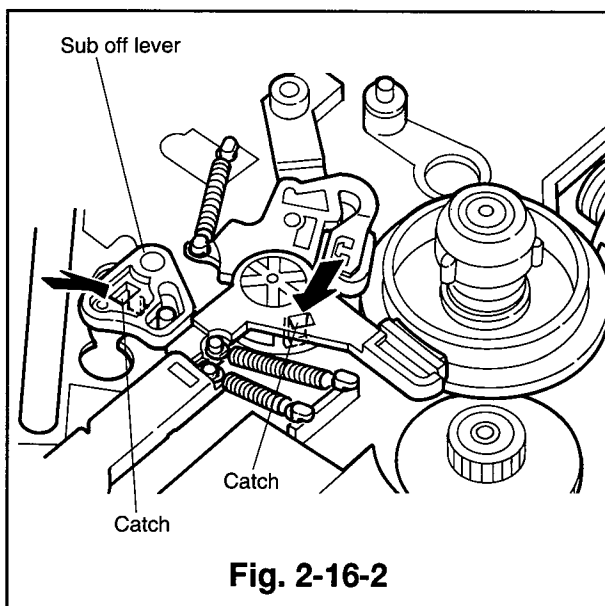

Fig. 2-16-2
- ① Remove the cassette housing. (Refer to Para. 2-1 for the removal method.)
- ② Remove the sub brake(SP) and the sub spring(SP). (Refer to Para. 2-14 for the removal method.)
- ③ Unfasten the catch of with a small screw driver, etc., and raise the sub off lever upward to remove it. (Refer to Fig. 2-16-2)
- ⑤ Unfasten the catch with a small screw driver, etc., and raise the sub brake(TU) upward to remove it as shown in Fig. 2-16-2.